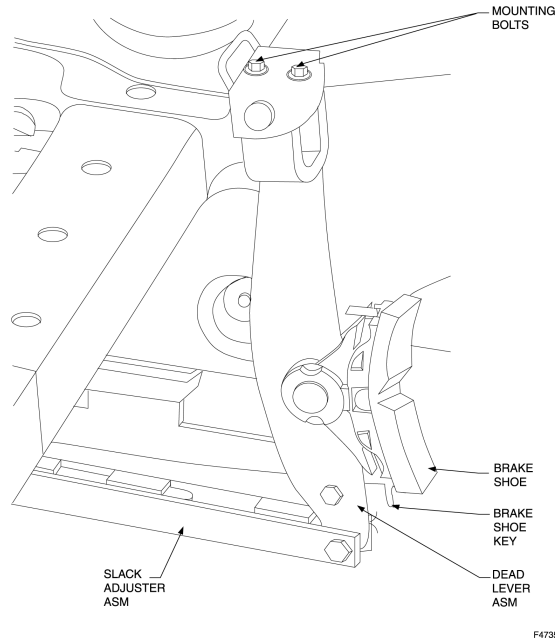

Figure 59 – Brake Lever Assembly Application - Dead
- In the same manner, lift each assembly in step 3 onto the bogie frame laying up the mounting block assembly on top of the dead lever mounting bracket as shown in Figure 59. Apply 2 new bolts with 2 new washers.